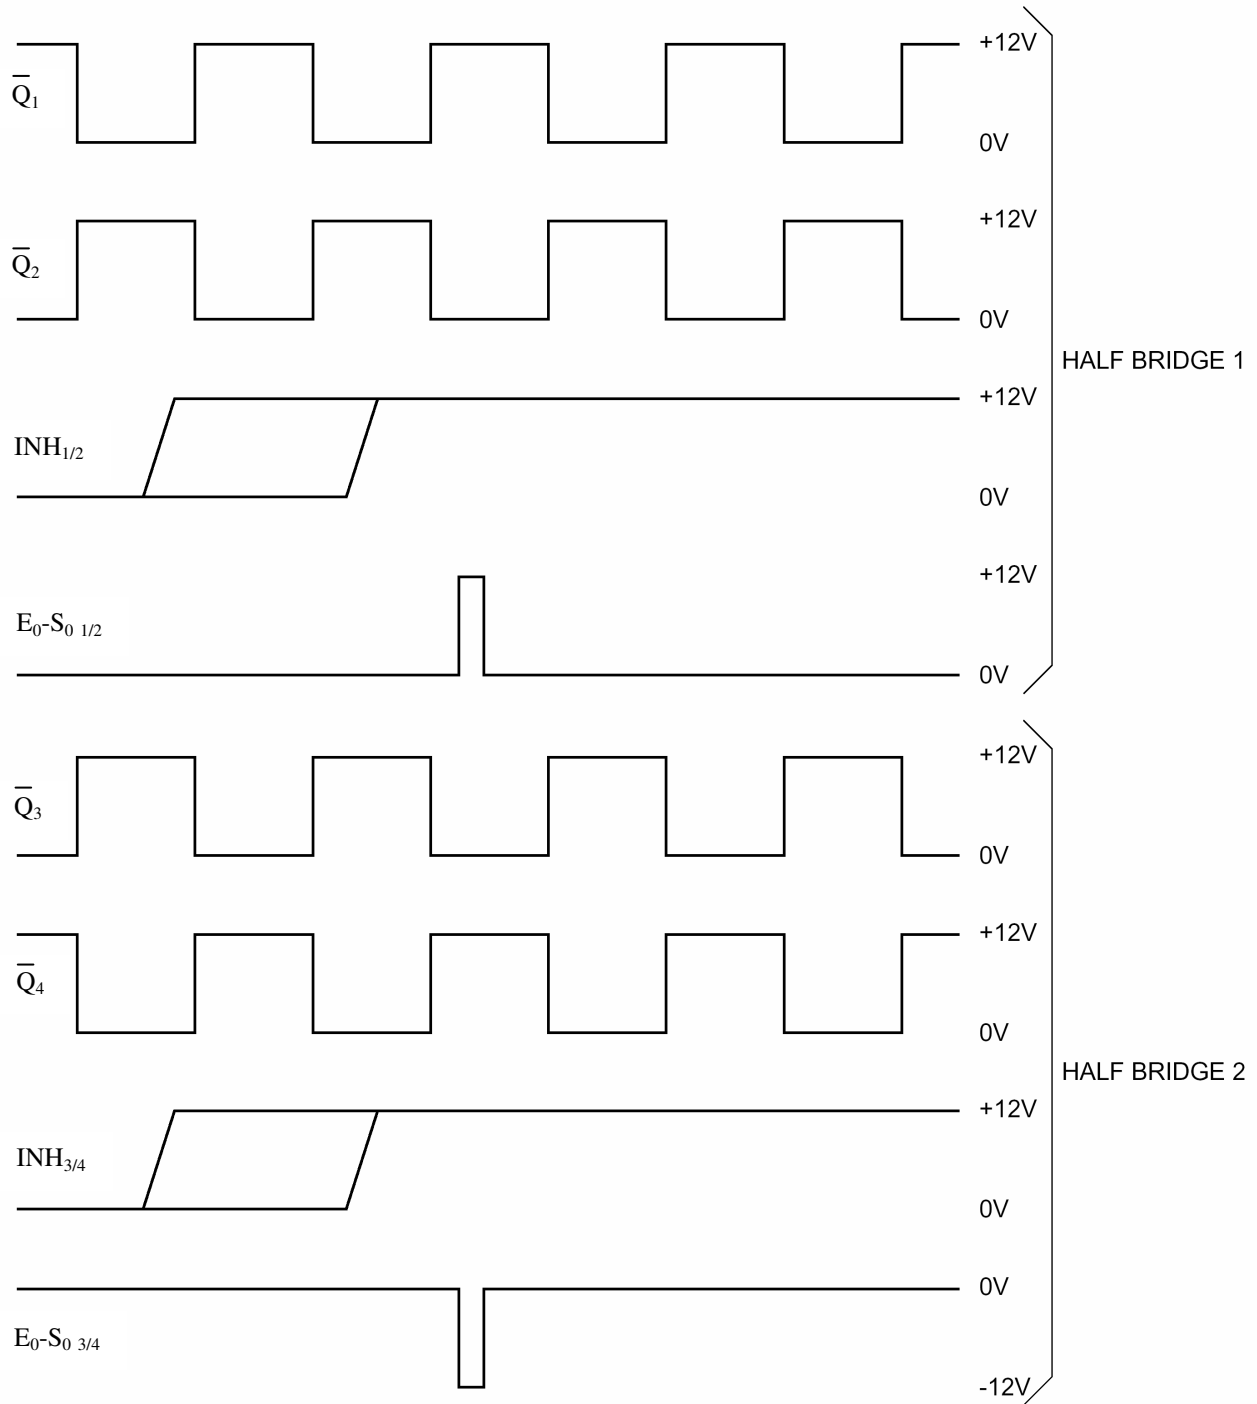

Figure 11: example of input signal for 4 x APTLGF70U120T modules connected in a Full Bridge configuration
• The startup signal, between E0-S0, may also be implemented by a negative pulse synchronized with input signal Q being low and forcing the lower switch to turn ON. Examples of both startup sequences being used in the startup of a full – bridge configuration is shown in figure 11.